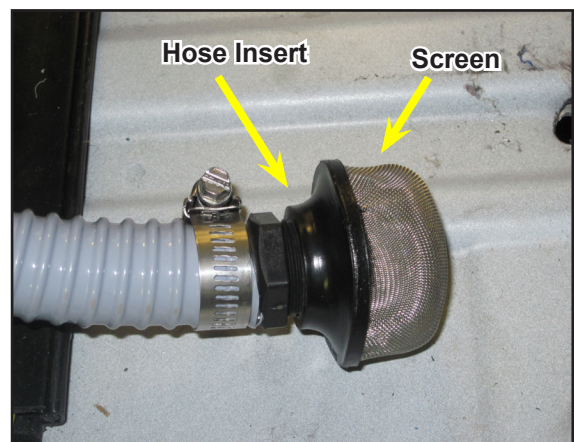

Figure 9. Install Hose Insert and Filter Screen on Longer (Passenger-Side) Hose
6. Install the hose insert and filter screen onto the end of the longer hose (see Figure 9).